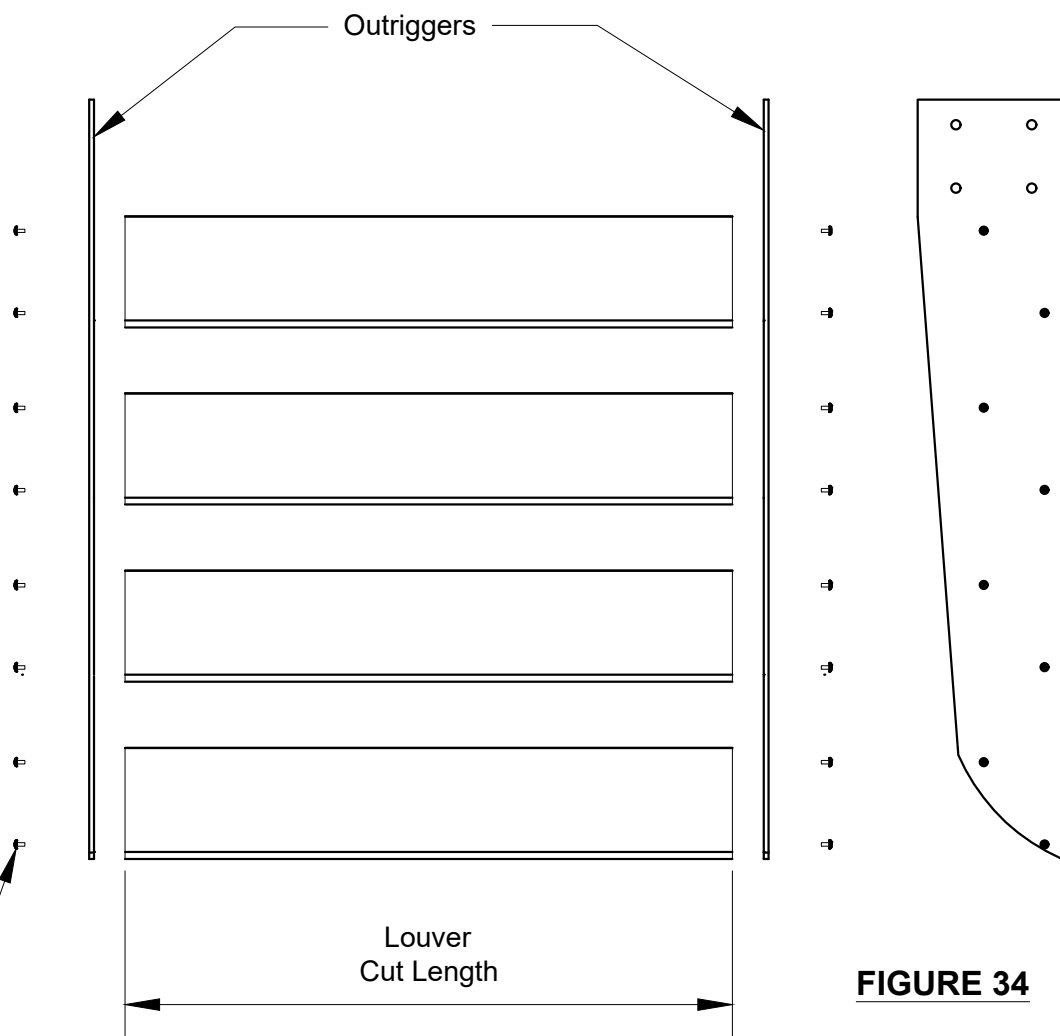

FIGURE 34
- 2) Cut louvers to fit between outriggers per formulas shown on FIGURE 34.